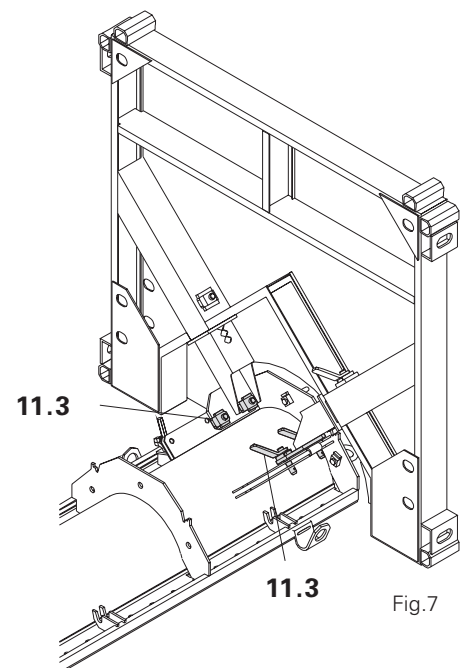

Fig.7
4. Secure platform with bolts **11.3**. Fig. 7